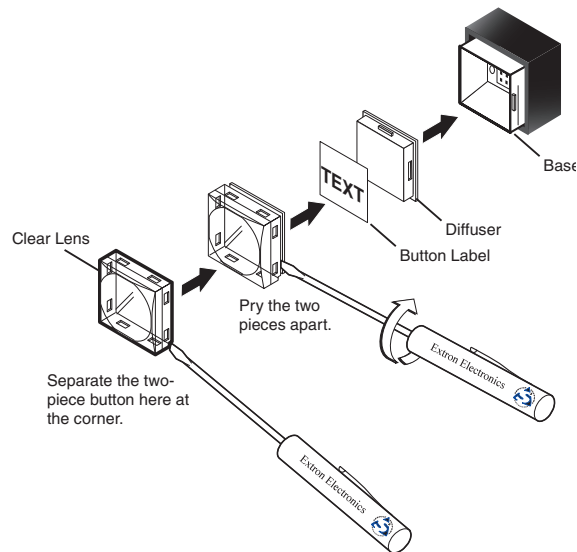

Figure 78. Illuminated Button Label Replacement
1. Remove the button from the matrix switcher; use a small, flat bladed screwdriver such as an Extron Tweaker to gently pry a button out from the front panel (see figure 78).